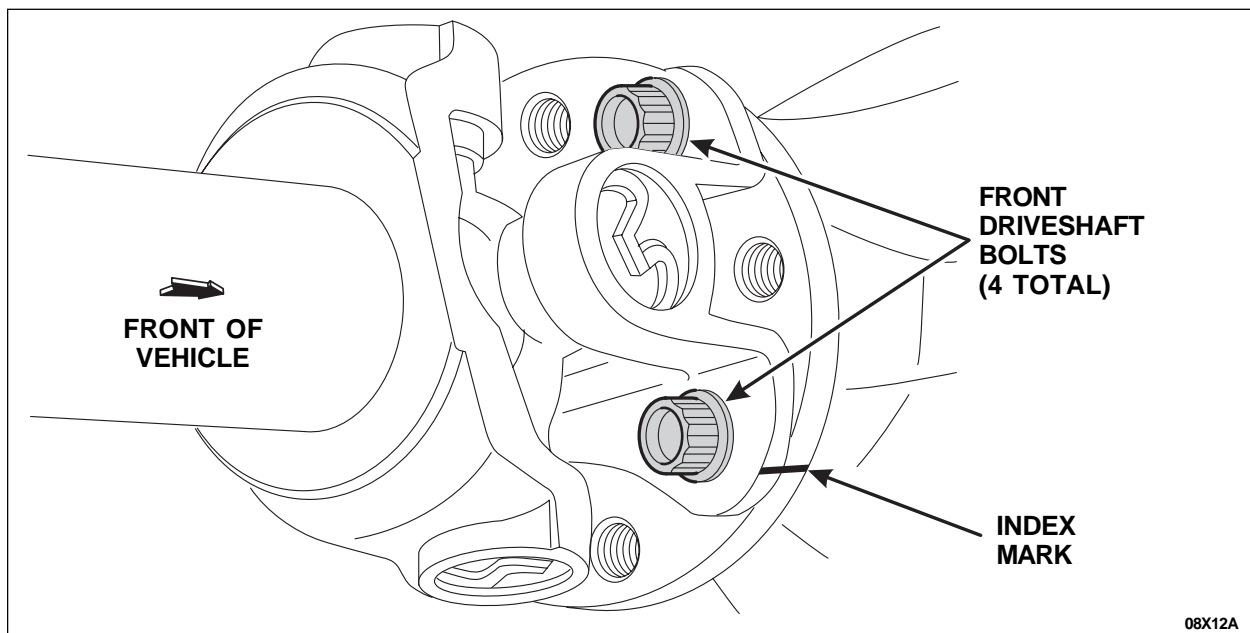

FIGURE 1
2. **4x4 only**, index mark the front driveshaft. Remove the 4 front driveshaft bolts and position the front driveshaft aside. See Figure 1.
9. **4x4 only**, align the driveshaft index marks and install the 4 front driveshaft bolts. Torque the bolts to 103 Nm. See Figure 1.